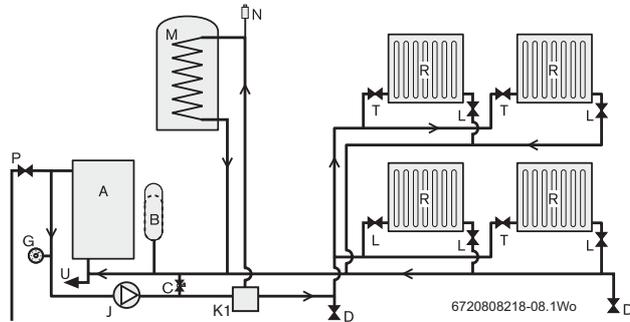

Fig. 12 Regular boiler system layout
**Key to condensate illustrations, figures 12, 13, 14 & 15**